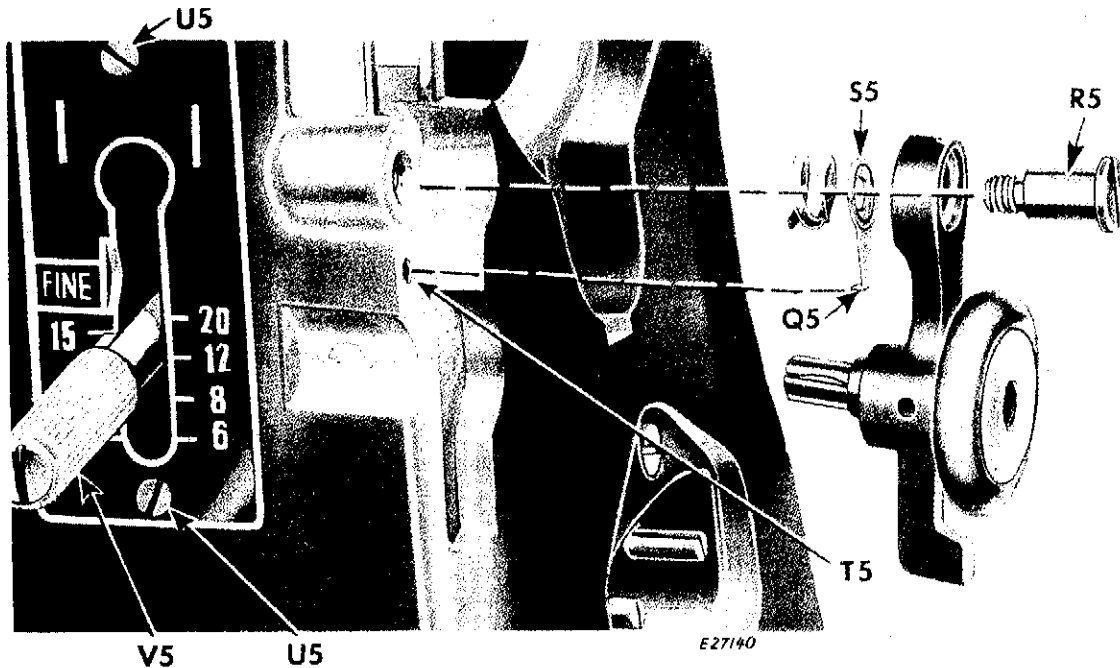

Fig. 312. Bobbin Winder Removed
2. Remove screw **R5**, **Fig. 312**.
3. Disassemble as shown in **Fig. 312**.
1. Assemble in order indicated in **Fig. 312**.
2. Remove two screws **U5**, **Fig. 312**, holding stitch regulator plate.
3. Move feed regulator **V5**, **Fig. 312** to bottom of slot in indicator plate.
1. Install regulator **V5**, **Fig. 312** in arm, making certain that slide fits on block on feed fork connection.